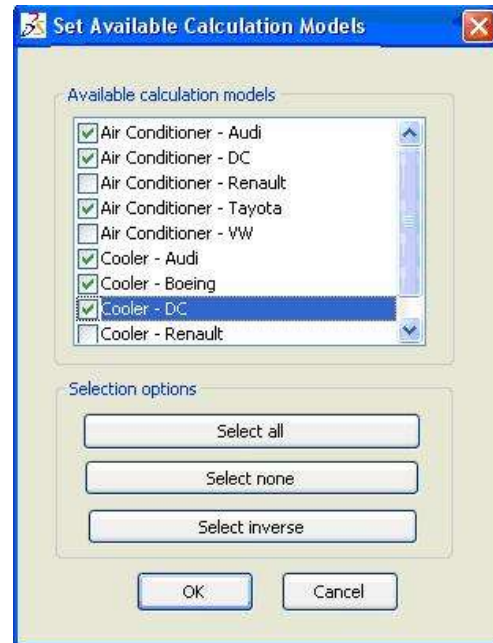

Figure 117: Set Available Calculation Models
6) The variant window is launched. *Please refer to the Figure 117.*
The Figure 117 is divided into three blocks. Usage Block, Attribute Block, and Calculation Model Block